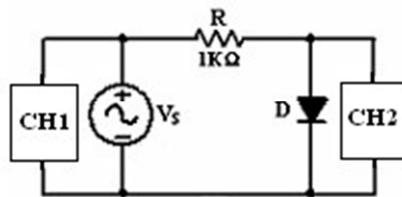

Figure 5
- 1- Construct the circuit shown in Figure 5 by using *IN4006 Si* diode.